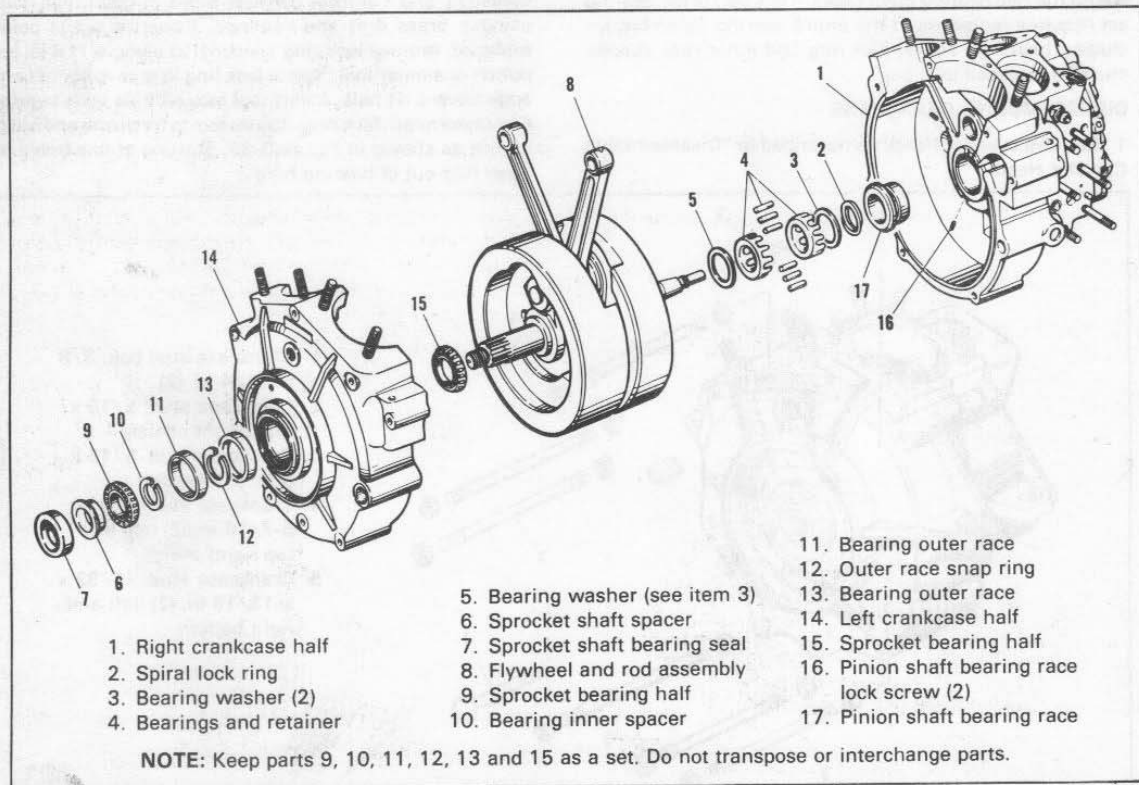
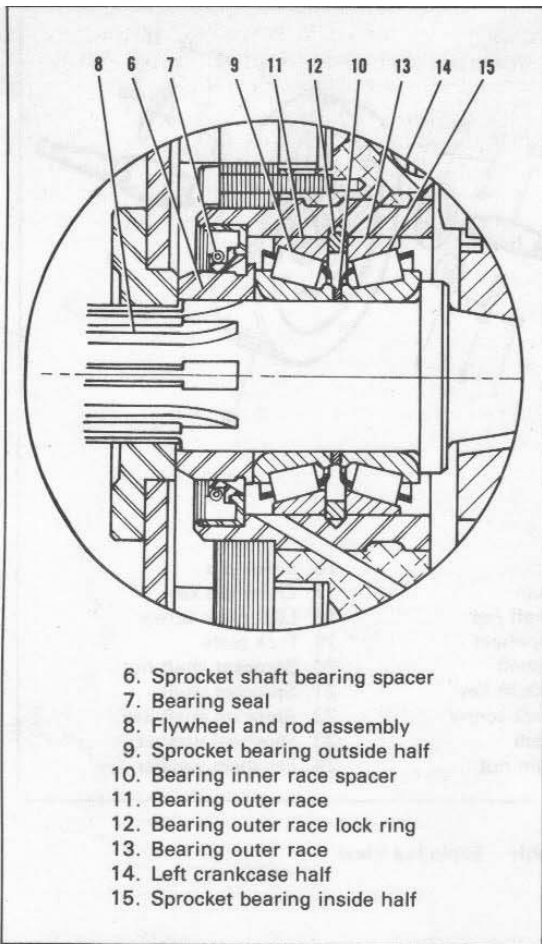

Figure 3-36. Crankcase - Exploded View
Figure 3-37. Sprocket Shaft Bearing Assembly - Section View
Refer to Figure 3-36 and continue disassembly:
3. Examine pinion shaft and right crankcase bearing race (see 17, Figure 3-36) for pitting, grooving and gouging at point where right main roller bearings ride. A shaft that is worn must be replaced. If bushing is worn beyond repair, replace as described in "Truing and Sizing Pinion Shaft Main Bearing."
A race that is worn beyond limits of oversize bearings must be replaced. To remove worn bearing race, remove two bearing race lock screws (17, Figure 3-36) from inside of case. Heat case to 275-300 degrees F. Heating expands case and makes it possible to remove bearing race using less force. Press worn race (18, Figure 3-36) out and new race in. New race must be lapped slightly to true and align with left case bearing, and to attain a size compatible with roller sizes available.
Install flywheel side outer race snap ring (12) in case. When properly installed, oil hole in snap ring groove will be centered in snap ring gap. Use arbor press and Outer Race Press Plug, Part No. 97194-57 to press outer race parts into crankcase bushing one at a time as shown in Figure 3-37. Press the races into the case, one from each side, with widest ends outward to match taper of bearings. Be sure each race bottoms on the snap ring.
Before loosening tool, check to see that the bearing is not preloaded by shaking crankcase half and feeling for a slight amount of play of crankcase half on bearing. Note: If there is no noticeable shake, or if flywheel assembly does not rotate freely in bearing, disassemble bearing and add a .003 Shim, Part No. 23741-55, on one side of inner race spacer (10, Figure 3-37). Again install bearing with tool and re-check for slight play in bearing.
Install spacer (6, Figure 3-36). Press seal (7) into crankcase with lip toward outside (see Figure 3-37).